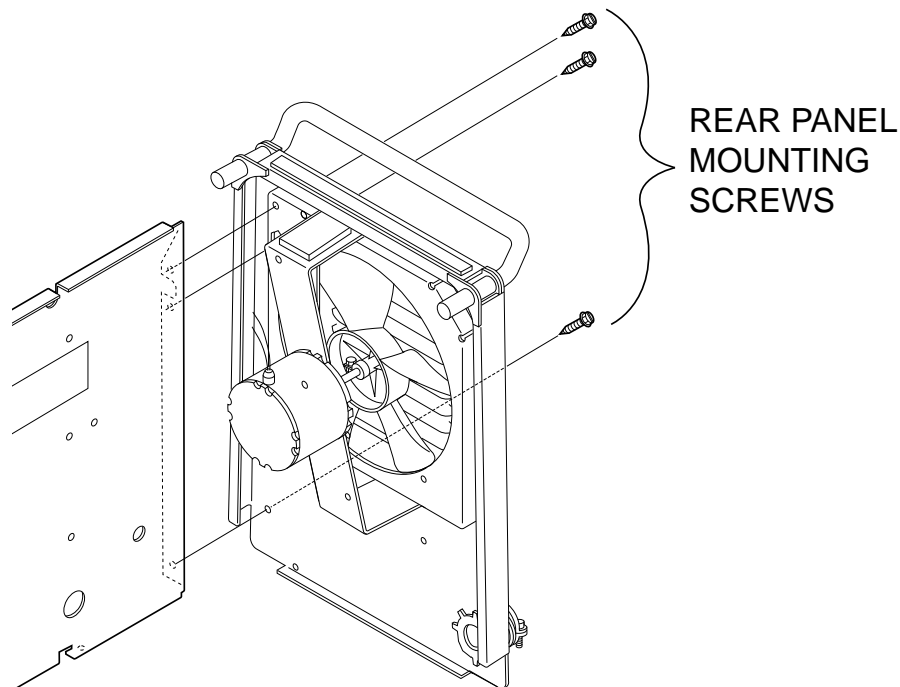

FIGURE F.7 CASE BACK MOUNTING SCREWS
4. Using the 3/8" nutdriver remove the two lower screws from the case back. See Figure F.7.
5. With the 5/16" nutdriver remove the three screws holding the case back to the internal divider panel. See Figure F.7.